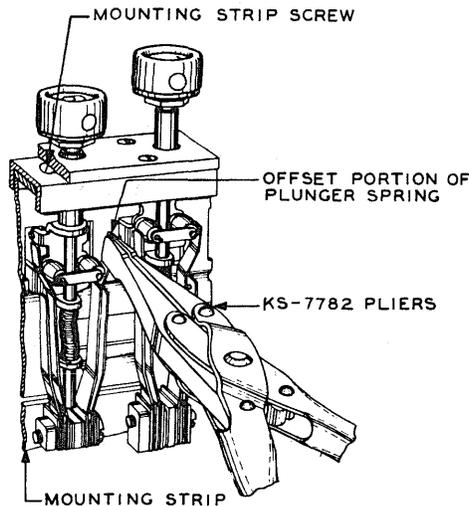

Fig. 9—Method of Adjusting for Plunger Travel
(3) To check the plunger travel, press down on the plunger and observe whether the requirement is met when the plunger is depressed the specified distance. To adjust the plunger travel on any key, adjust the offset portion of the springs toward or away from the rollers (or the plunger of the B25-type keys), as required, using the KS-7782 pliers applied as shown in Fig. 9. If the springs make contact before the plunger is depressed the specified distance, adjust the springs away from the plunger. If the contacts do not make when the plunger is depressed the specified distance and the contact